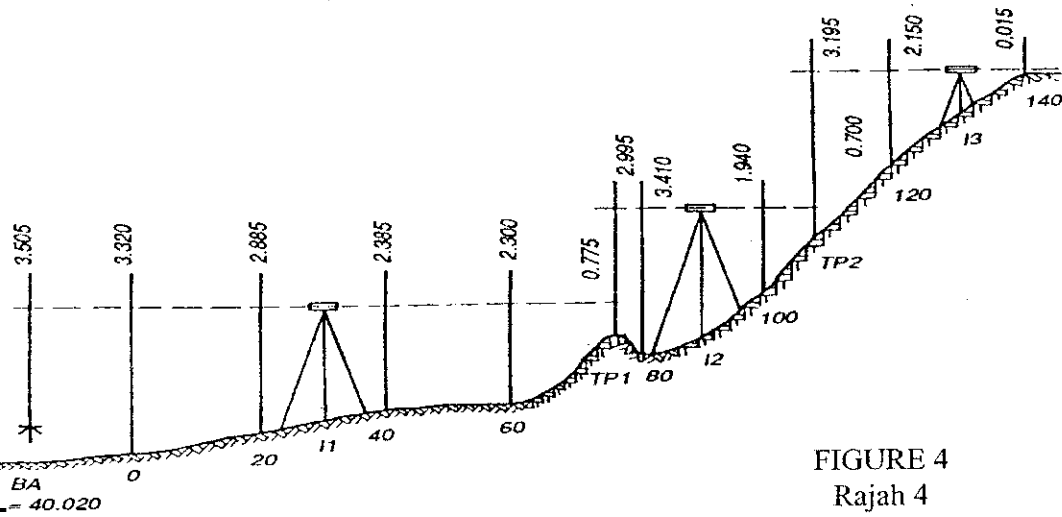

FIGURE 4
Figure 4 shows the longitudinal section of a leveling survey.
- e) Based on Figure 4, complete the table of leveling survey work by using Appendix 3 on page 11.